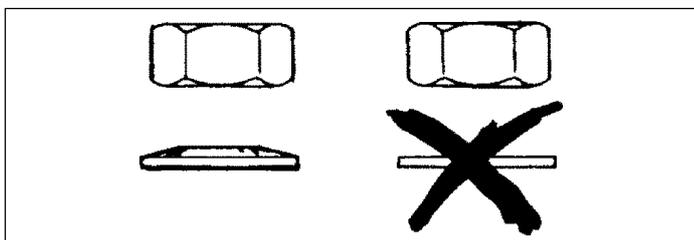

Fig. 25
- the **tightening nut** is inefficient: if the washer under the nut has become flattened (fig.25)